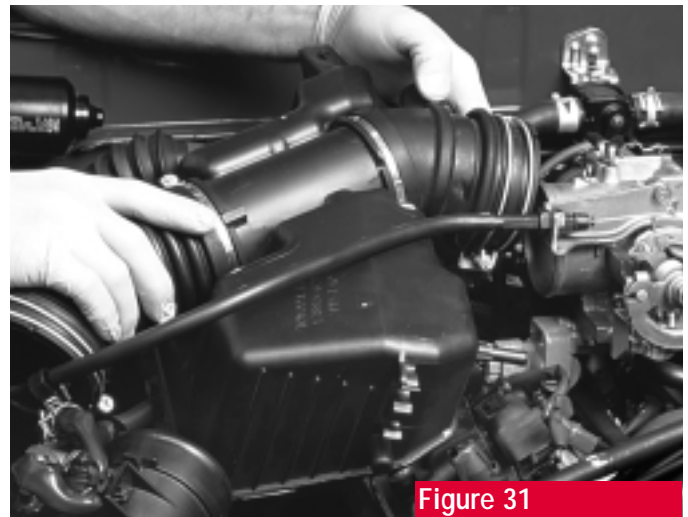

Figure 31
- Install the air inlet tube to the throttle body and Mass Air Flow Sensor and reconnect its hoses and tubes. Be careful not to damage the sensor (figure 31).